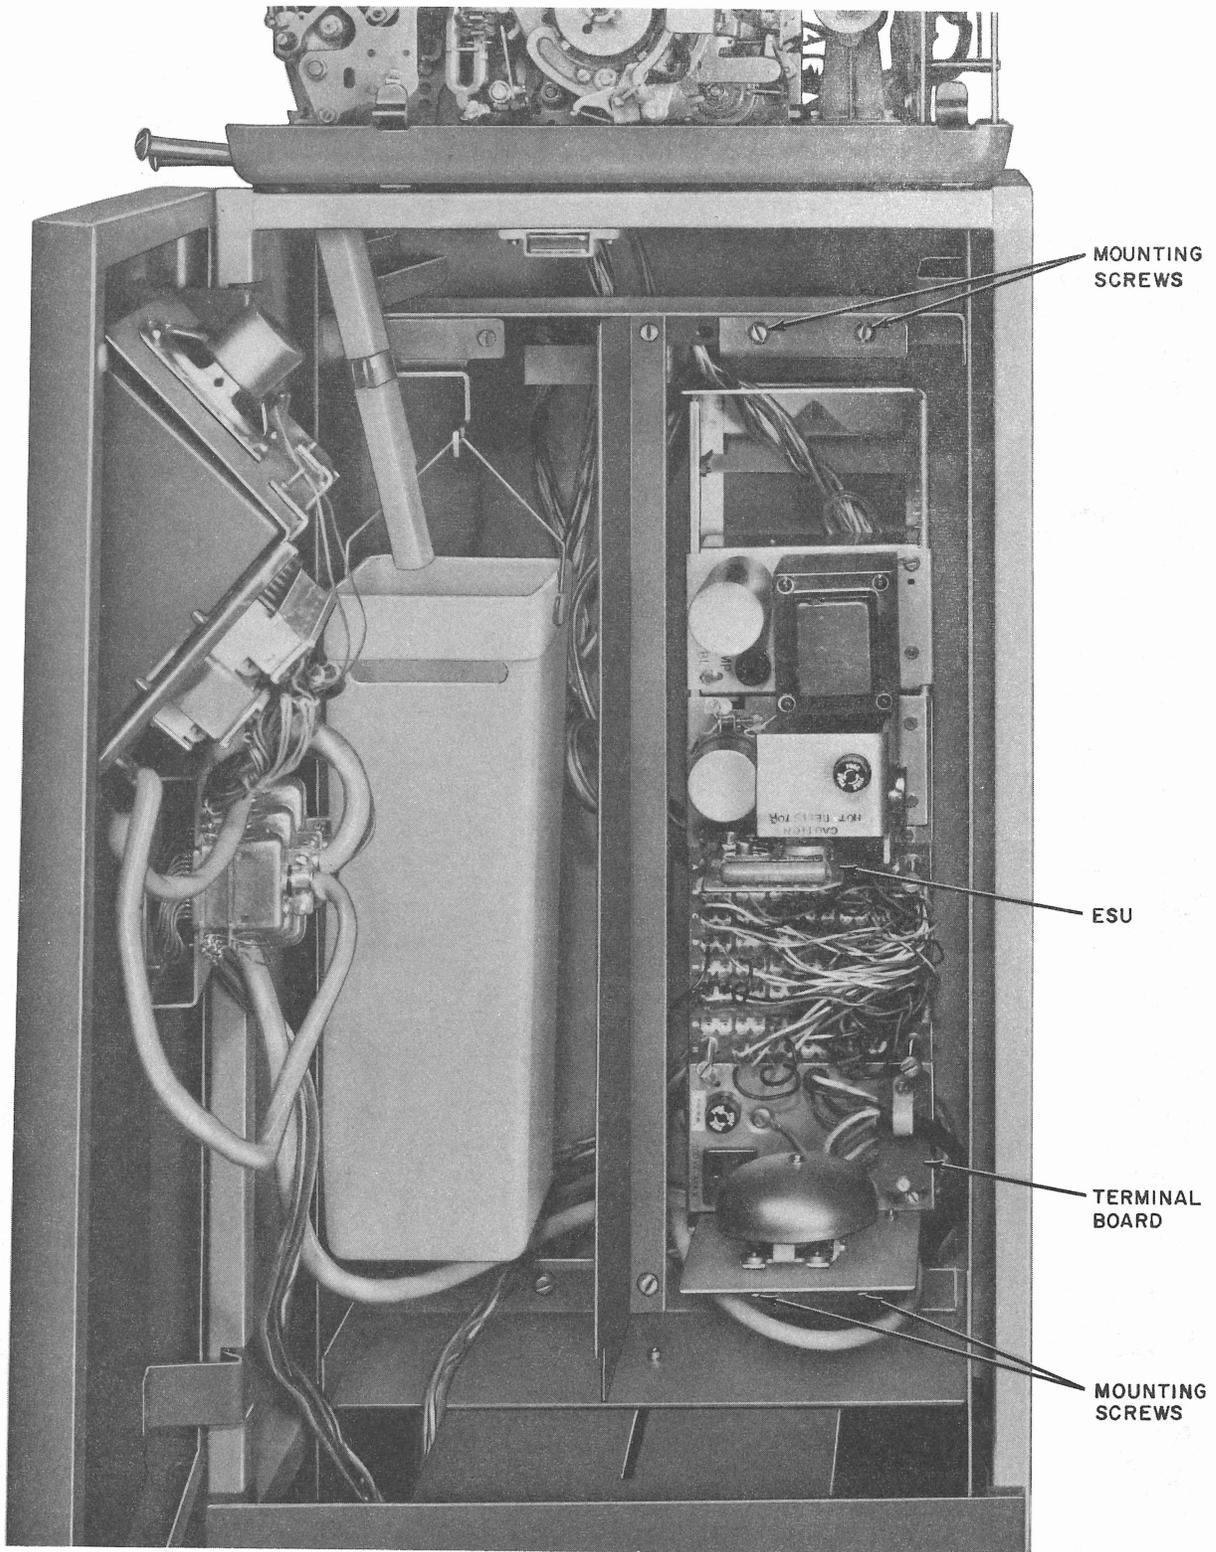

Fig. 18—35 ROTR TTY Data Station—ESU Removal
- (2) Disconnect the ESU wiring from the terminal board (Fig. 18).